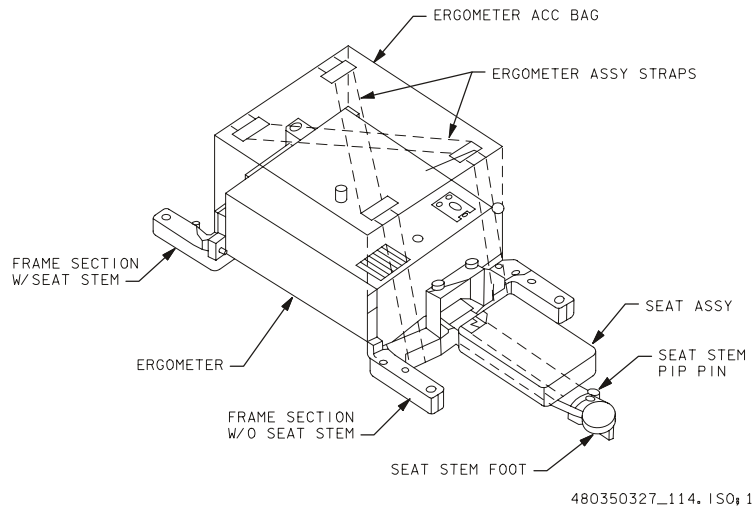

Figure 3-3.- Ergometer middeck launch/landing config (ergo assy).
11. Slide frame half, without seat stem, onto stem in launch/landing config (fig 3-3)
14. Attach Ergometer horizontally to frame with pip pins (fig 3-3)
18. Mount frame to launch/landing position in middeck using frame/AQDs (four), with seat stem facing forward (fig 3-3)
19. Using Ergo Assy Straps attach Ergo Acc Bag to Ergometer (fig 3-3)
2. Screw Manual Control Kb into bushing on Ergometer (fig 3-3)